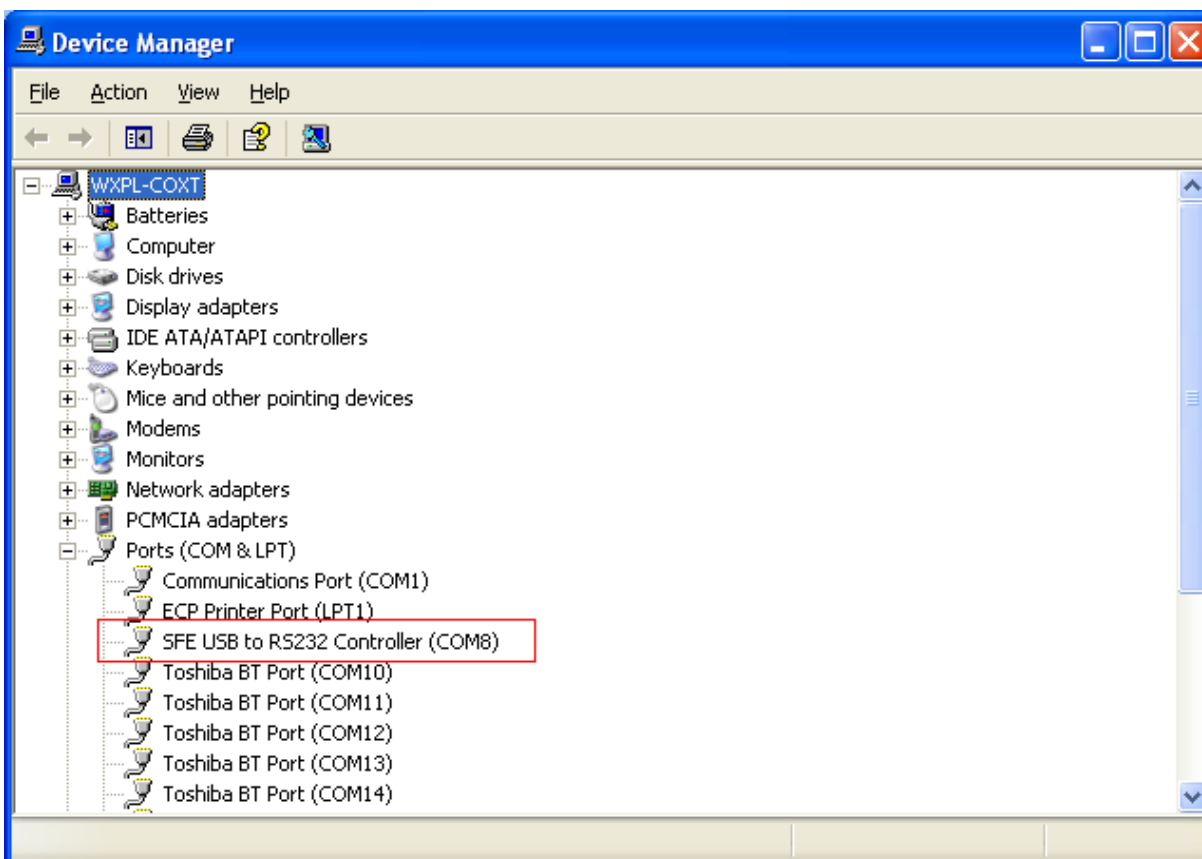

Figure 2-2 • Windows Device Manager
5. Open the Windows Device Manager by selecting **Start > Control Panel > System > Hardware > Device Manager**. Expand the Ports (COM and LPT) section and take note of the COM port assignment for the SFE USB to RS232 Controller (in Figure 2-2 it is assigned to COM8).
If you do not see SFE USB to RS232 Controller in the Device Manager (Figure 2-2), you may need to reboot your machine.